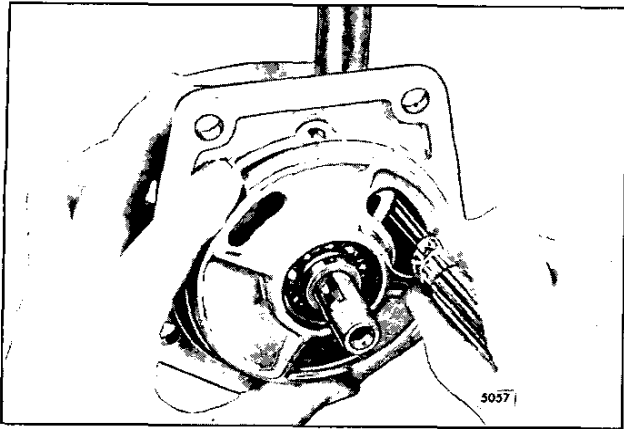

Fig. 2 - Removing or Installing Operating Shaft Fork
10. Place a new gasket on the governor housing, then install the governor cover and lever assembly. Be sure the pin in the throttle shaft enters the slot in the differential lever. Secure the cover to the governor with four screws and lock washers. If a torsion-type stop lever spring is used, a special cover screw is used to hold the spring in place (Fig. 2). If a long coil spring is used, the spring retaining bracket is held in place by one of the standard cover retaining screws.
3. Turn the bearing retainer until the large opening is centered over the fork on the governor operating shaft (Fig. 2).